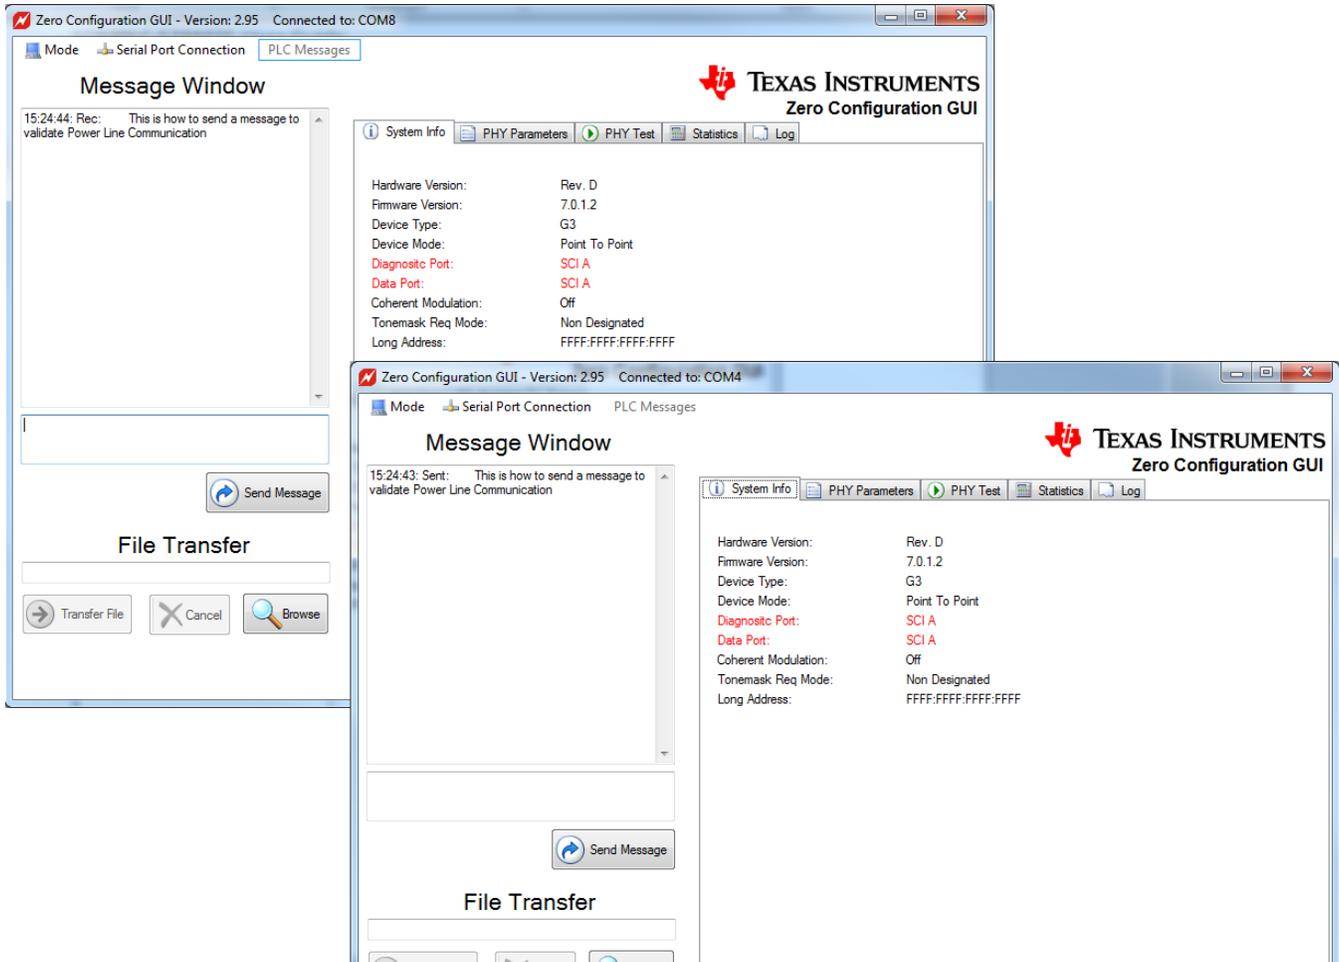

Figure 14. Send Message Dialog
- The message will then be received by the other GUI, as shown in Figure 14.